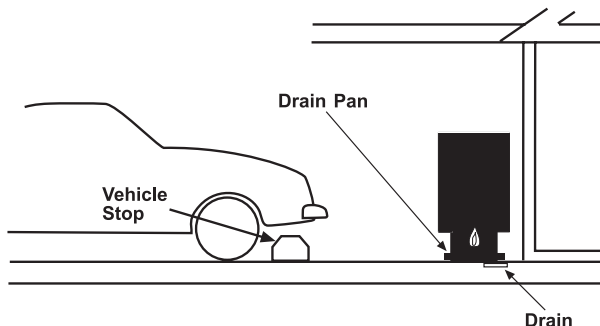

Figure 4. GARAGE INSTALLATION
3. Locate the water heater so it is protected and not subject to physical damage by a moving vehicle. In garage installation avoid damage to your water heater by installing a vehicle stop as shown in Figure 4. Check state and local codes for requirements prior to installation.